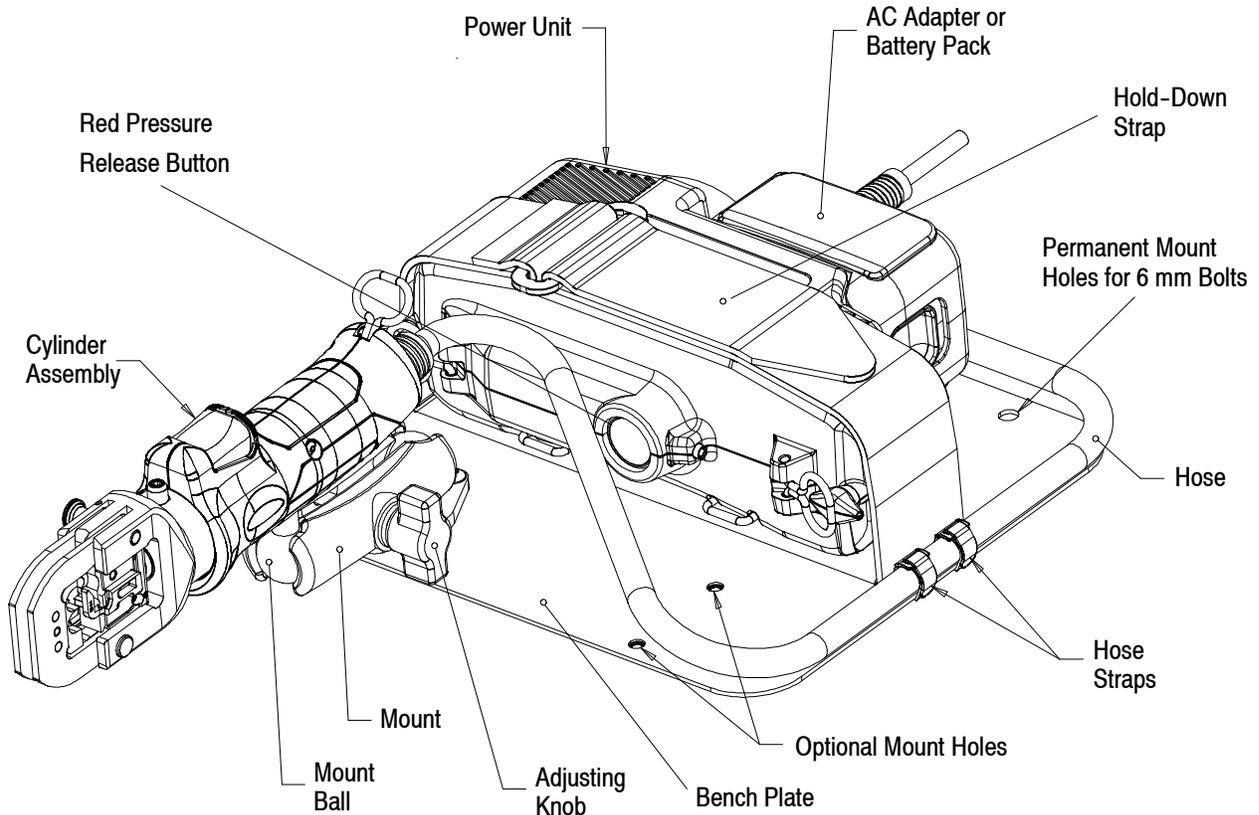

Figure 1
2. DESCRIPTION (Figure 1)
A hold down strap secures the the power unit to the bench plate. Refer to Figure 1.
1. Open the hold down strap and lay the ends out to the sides of the base. (See Figure 1.)
6. Press the strap end onto the strap as shown in Figure 1.
The hand unit and hose should be mounted so that the red pressure release button is convenient to press. (See Figure 1.)